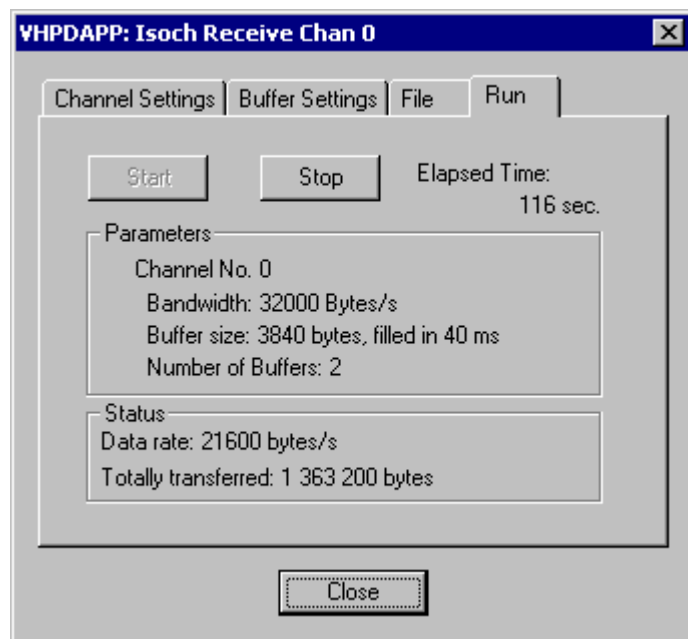

Figure 27: Isochronous setup #3 (VHPD demo)
- Click on "Start" (see Figure 27)